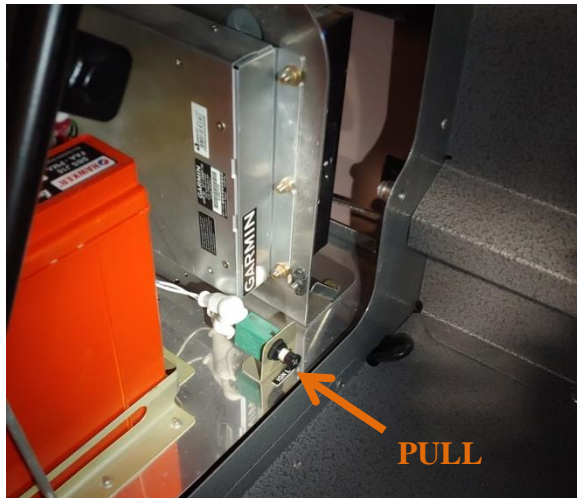

Figure 1: Ign L Circuit Breaker Location
2. Pull IGN L circuit breaker to remove power from left ignition module. See Figure 1.